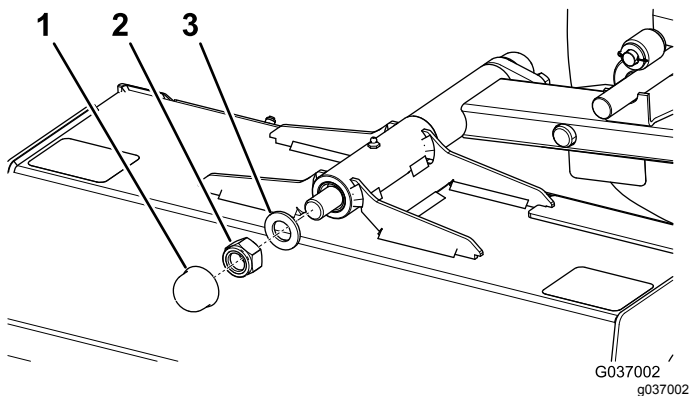

Figure 76
4. Remove the cap and remove the nut (M24) and washer from the pivot shaft (Figure 76).
5. Install the washer and locknut (M24) and tighten the locknut (Figure 76).